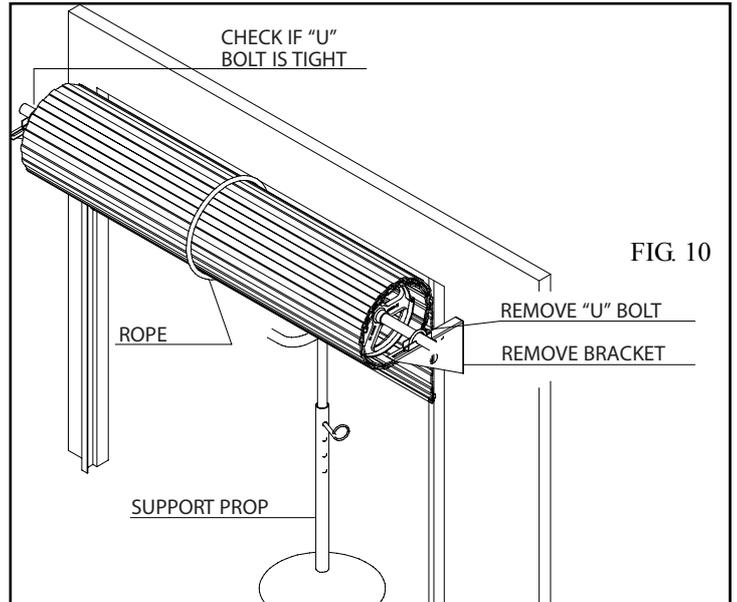
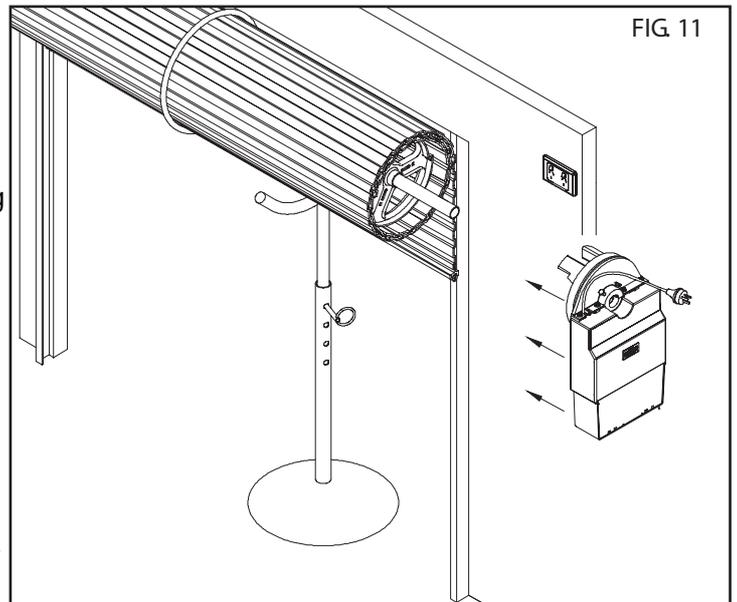
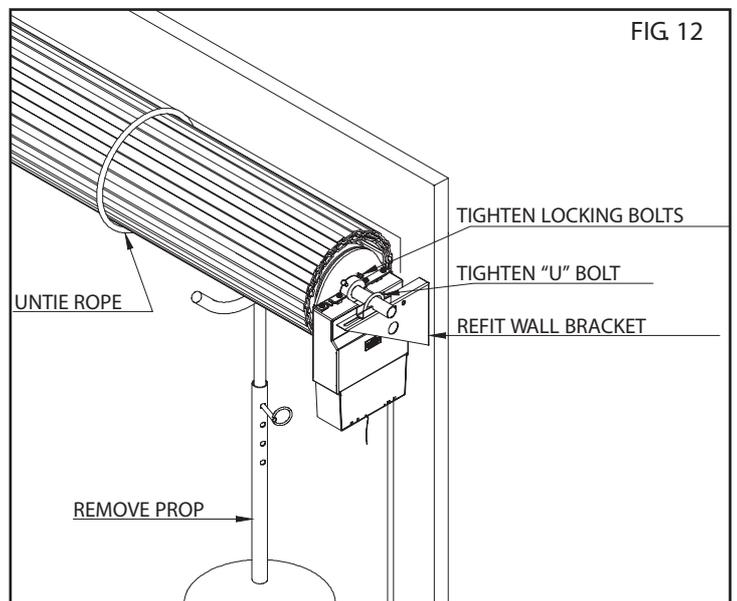

FIG. 10
FIG 11
FIG 12
(Fig. 10, Fig. 11 and Fig. 12).
9. Straighten the drive unit and position as per Fig. 12. Tighten the two locking bolts firmly to secure the drive unit.